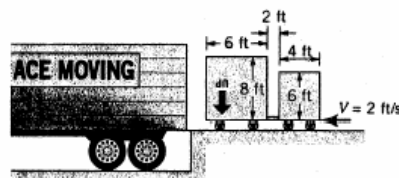

FIGURE P5.25
5.25 Two 8-ft-wide rectangular crates are wheeled into the trailer portion of a semi-truck at a speed of $V = 2$ ft/s as shown in Fig. P5.25. At time $t = 0$ the front of the first crate is 2 ft from the open back of the trailer. Plot a graph of the air flowrate across the open end of the trailer as a function of time for $0 \leq t \leq 10$ s.